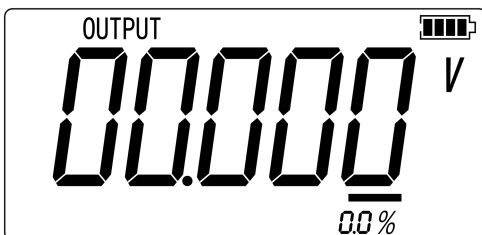

Figure 2.1-4
5. Press  to enter into output mode selection as shown in Figure 2.1-4.